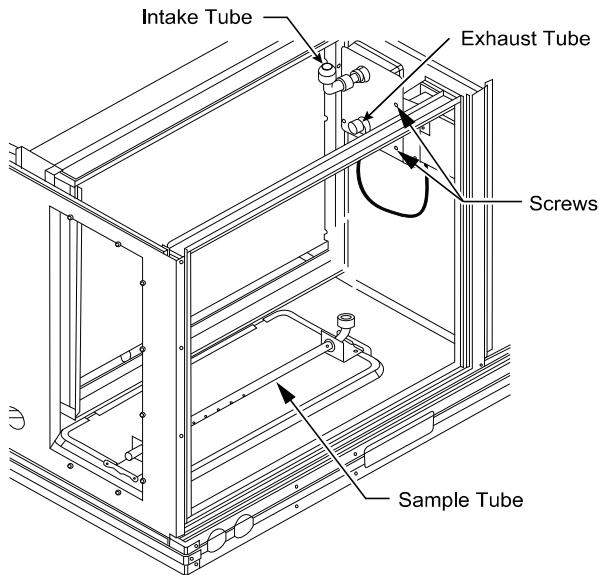

Fig. 41 — Return Air Smoke Detector Shipping Position
1. Unscrew the 2 screws holding the return air sensor detector plate. See Fig. 41. Save the screws.